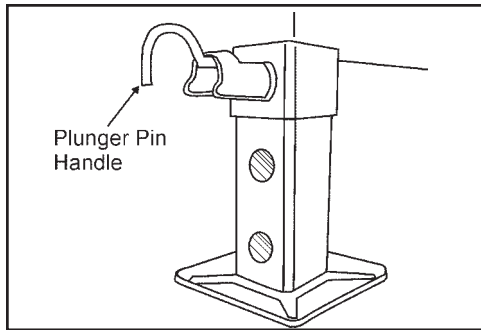

Figure 23. Drop Leg Mechanism
- Return the drop legs to their upper positions. The drop legs are held in the lowered position with a plunger pin. Rotating the plunger pin while pulling it outward will cause it to come out of engagement with the drop leg and the leg will rapidly rise (see Figure 23 on page 33).
- Rotate the drop leg plunger pin handle so that the plunger pin is released from the drop leg (see Figure 23).